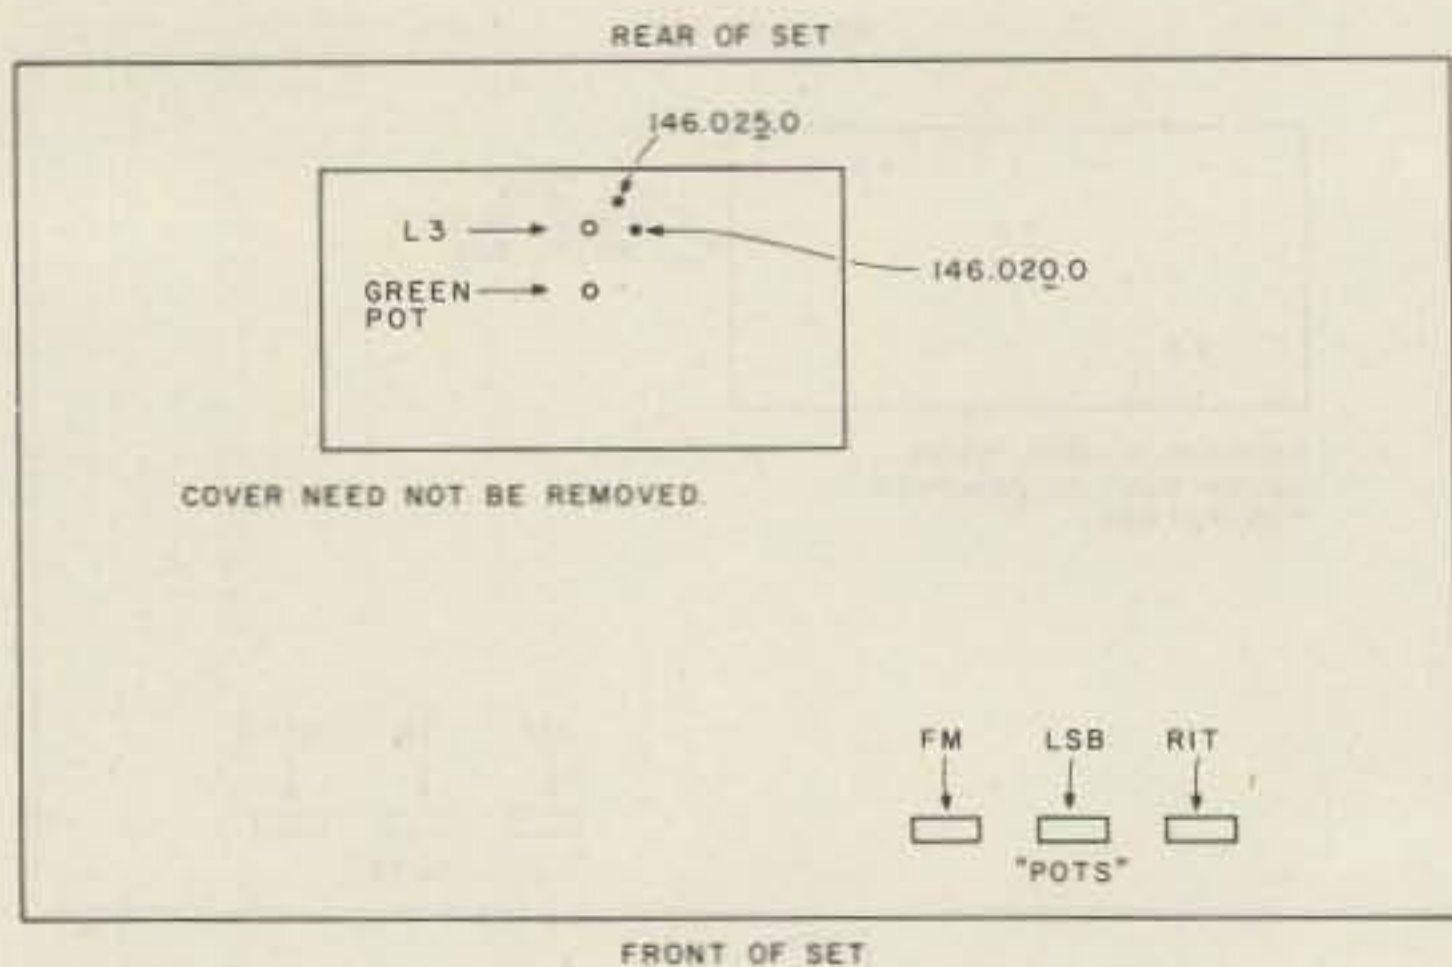

Fig. 3.
- Repeat steps 1 and 2 as necessary to obtain correct readings, since these steps interact. The newer unit is aligned as follows (see Fig. 3): The rig should be turned on for about 30 minutes to an hour before starting; *all steps must be done in the order indicated*.